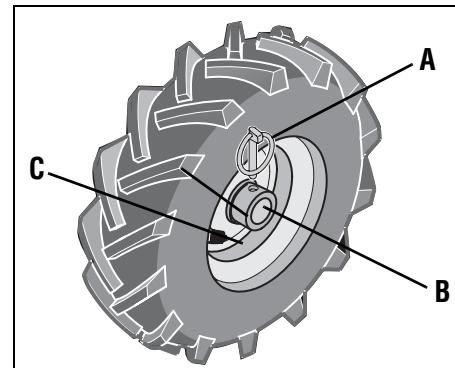

Figure 3-2: WHEEL DRIVE position.
Each wheel is equipped with a wheel drive Klik pin (A, Figures 3-2 and 3-3) that secures the wheel to the wheel shaft (B). The wheels can be positioned in either a WHEEL DRIVE or a FREEWHEEL mode.
3. Remove Klick Pin (A, Figures 3-2 and 3-3) from wheel drive shaft (B).
4. FOR FREEWHEEL MODE (Figure 3-2):
wheel hub (D, Figure 3-2) and wheel shaft (B). Insert Klik pin (A) through wheel hub (C) and wheel shaft (B). Repeat with the other wheel and then remove the support from beneath the transmission.